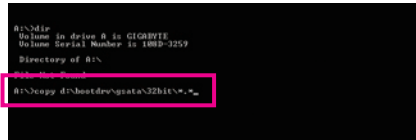

Figure 2
- For the GIGABYTE SATA2/JMicron JMB362, type (Figure 2): ^(Note 2)